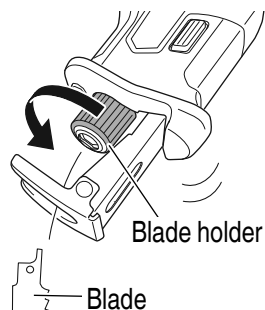

Fig. 13
- (1) After turning the blade holder, point the blade downward. The blade should fall out on its own. If the blade fails to fall out, pull it out by hand. (Fig. 13)